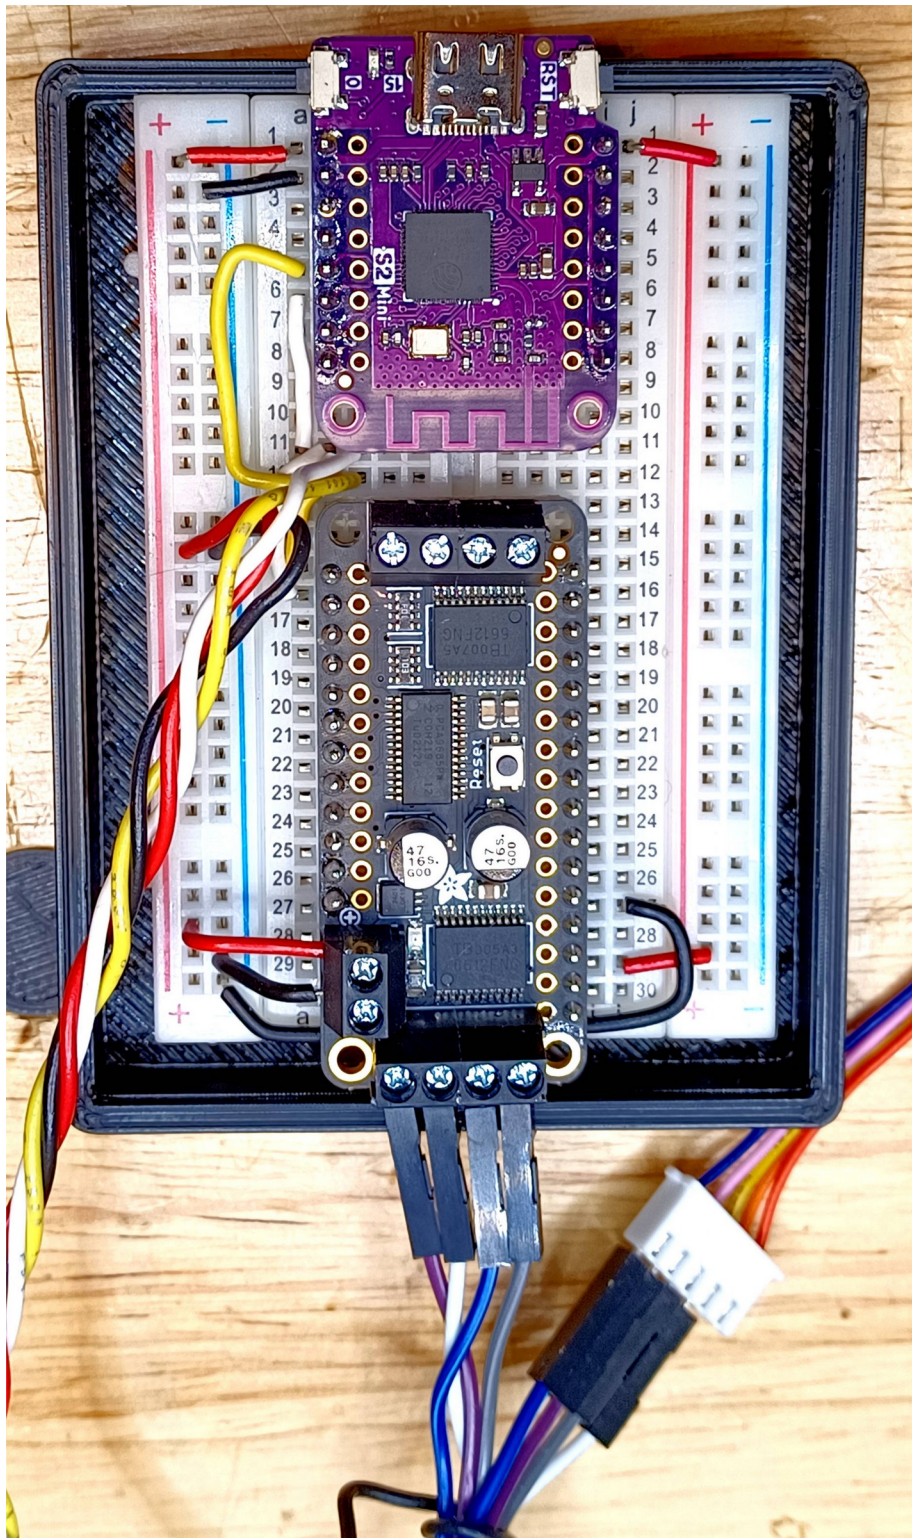

Figure 7: Picture of wired device.
**Note:** The reference for wiring the different pieces should be the respective data sheets. Refer to *Figure 7* on the next page when wiring the device.
The sensor on the Lux sensor board is small, so it helps to have a diffuser in front of the sensor. I used a piece of a ping pong ball taped about 2 mm in front of the sensor, as shown in *Figure 7*.